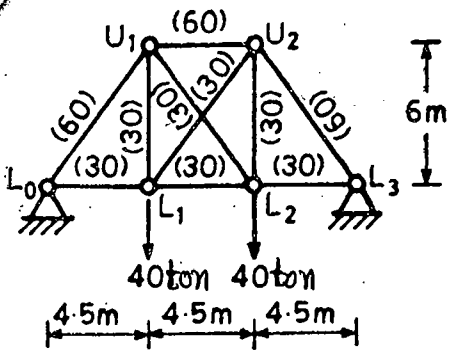

Fig. 1
1. (a) Analyse the truss in Fig. 1 by the consistent deformation method. ( $E = 2000 \text{ ton/cm}^2$ ).